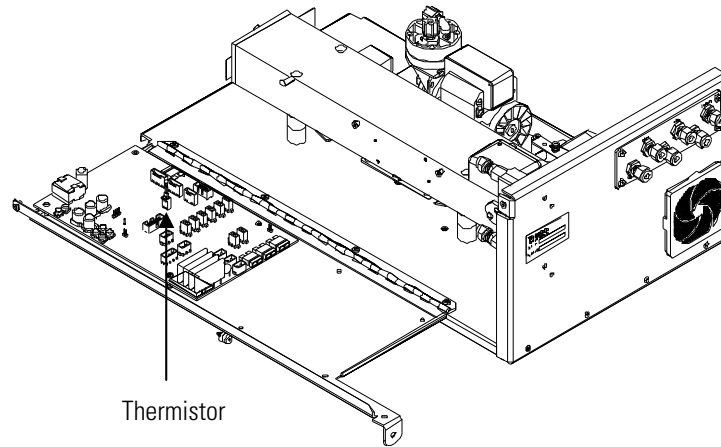

Figure 7–15. Replacing the Thermistor
2. Tape the thermometer to the thermistor, which is plugged into the measurement interface board (Figure 7–15).